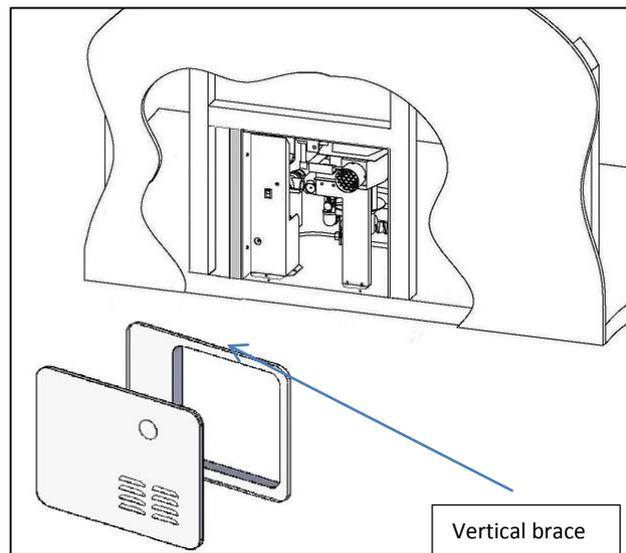

Fig. 1
The existing cut out for a 6 gal Atwood water heater measures 16 1/4" (W) by 12 5/8" (H). The cut out needed for your GSWH-2 is only 13" by 13" and its flange MUST be supported on all sides by a wooden frame so that it may be mounted rigidly with #8 3/4" flat head screws. The flange will fit vertically into the existing opening, but a horizontal gap of 3 1/2" will be left between the new flange and the side of the opening. A properly cut piece of 2" by 2" must be added as a vertical brace located at 13" from the right edge of the cut out. (See Fig. 1)